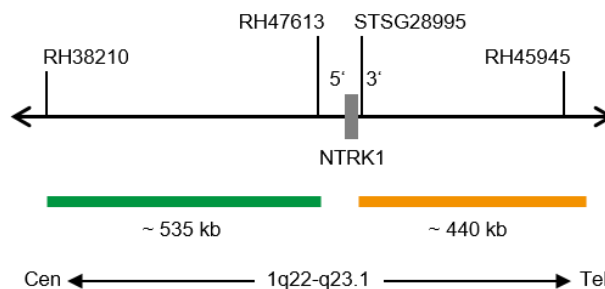

Fig. 1: SPEC NTRK1 Probe map (not to scale)
- ZyGreen (excitation 503 nm/emission 528 nm) labeled polynucleotides (~10 ng/ μ l), which target sequences mapping in 1q22-q23.1* (chr1:156,245,849-156,781,745) proximal to the NTRK1 breakpoint region (see Fig. 1).
- ZyOrange (excitation 547 nm/emission 572 nm) labeled polynucleotides (~4.5 ng/ μ l), which target sequences mapping in 1q23.1* (chr1:156,854,527-157,296,918) distal to the NTRK1 breakpoint region (see Fig. 1).